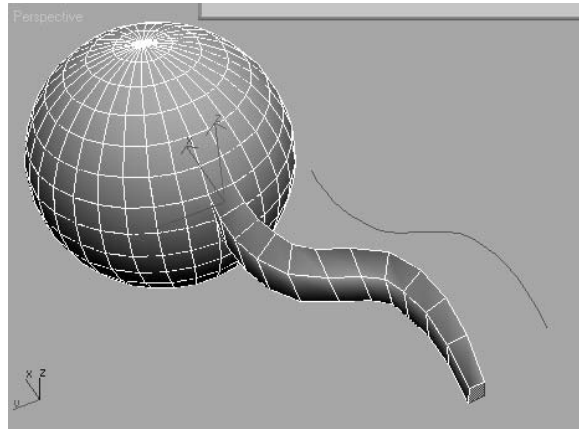

Figure 4.41
5. Start by adding more segments; 15 to 20 should give you a good looking extrusion. The extrusion in Figure 4.41 is the result of 11 Segments, -0.5 Taper Amount, and 2.0 Taper Curve.